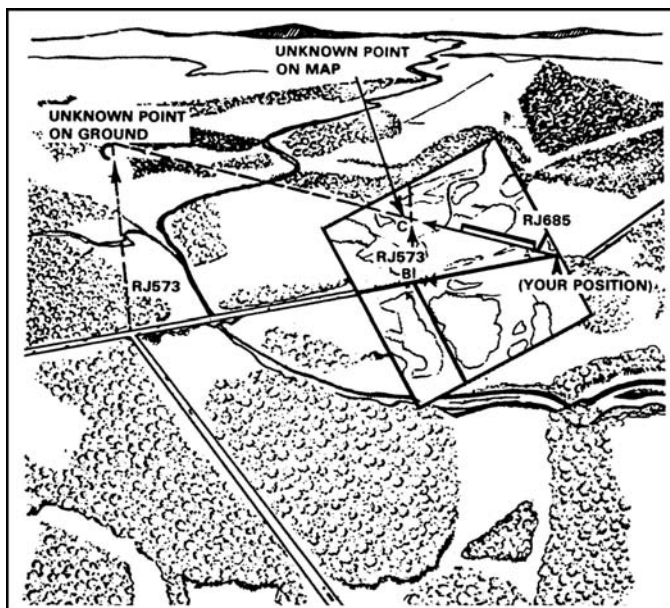

Figure 071-329-1014-2. Intersection without compass
2. Use the straight edge method (when no compass is available) (figure 071-329-1014-2).